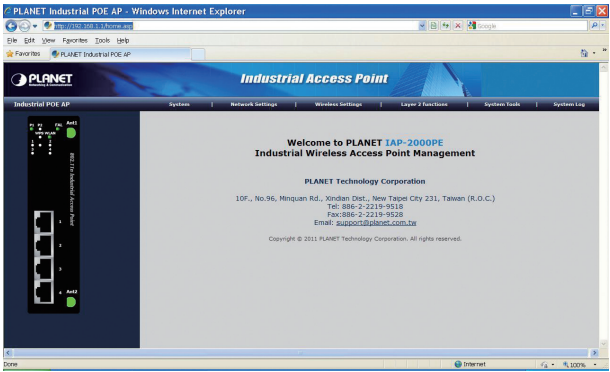

Figure 4-3 Main Screen of IAP-2000PE Web UI
3. After entering the user name and password, you will see the main screen which appears as Figure 4-3.